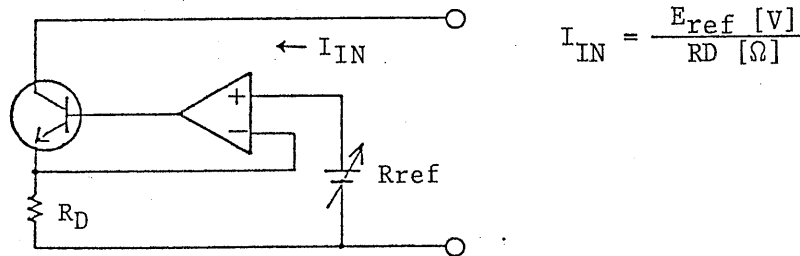

Figure 3.3.1 Simplified Diagram of Constant Current Control Circuit
3.3 Block Diagram Analysis (See Figure 3.3.1)